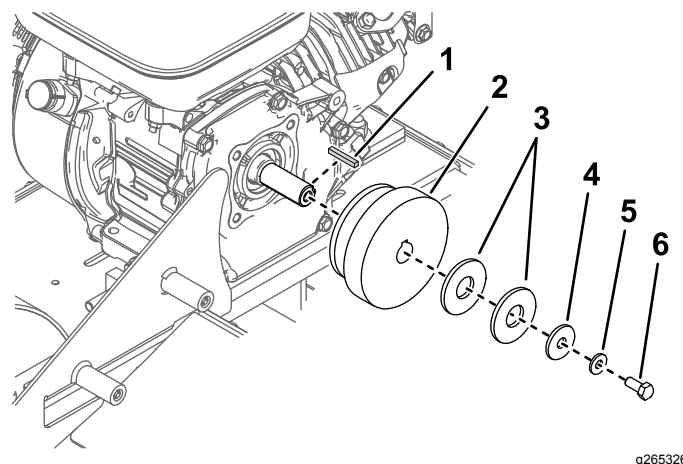

Figure 3
5. Remove the clutch pulley (Figure 3).